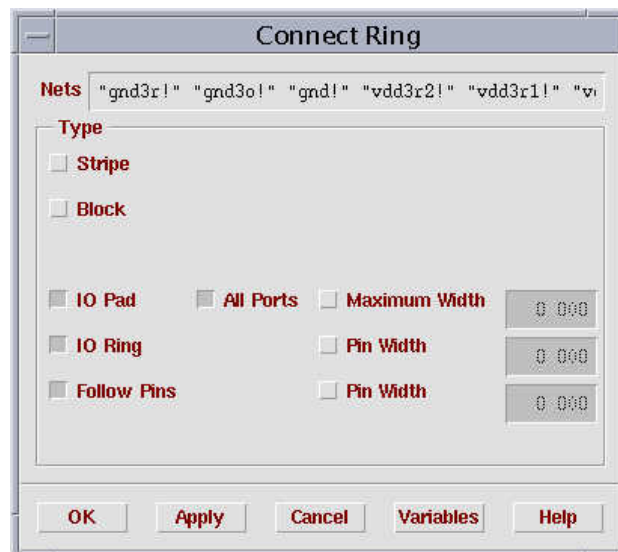

Figure 7-35 Connect Ring form settings.
1. Click on **Route→Connect Ring...** to connect IO Pads, IO rings, and Follow Pins to the power rings. As there is no stripe and block in the design, set the Connect Ring form as figure 7-35 and then click on **Ok**.